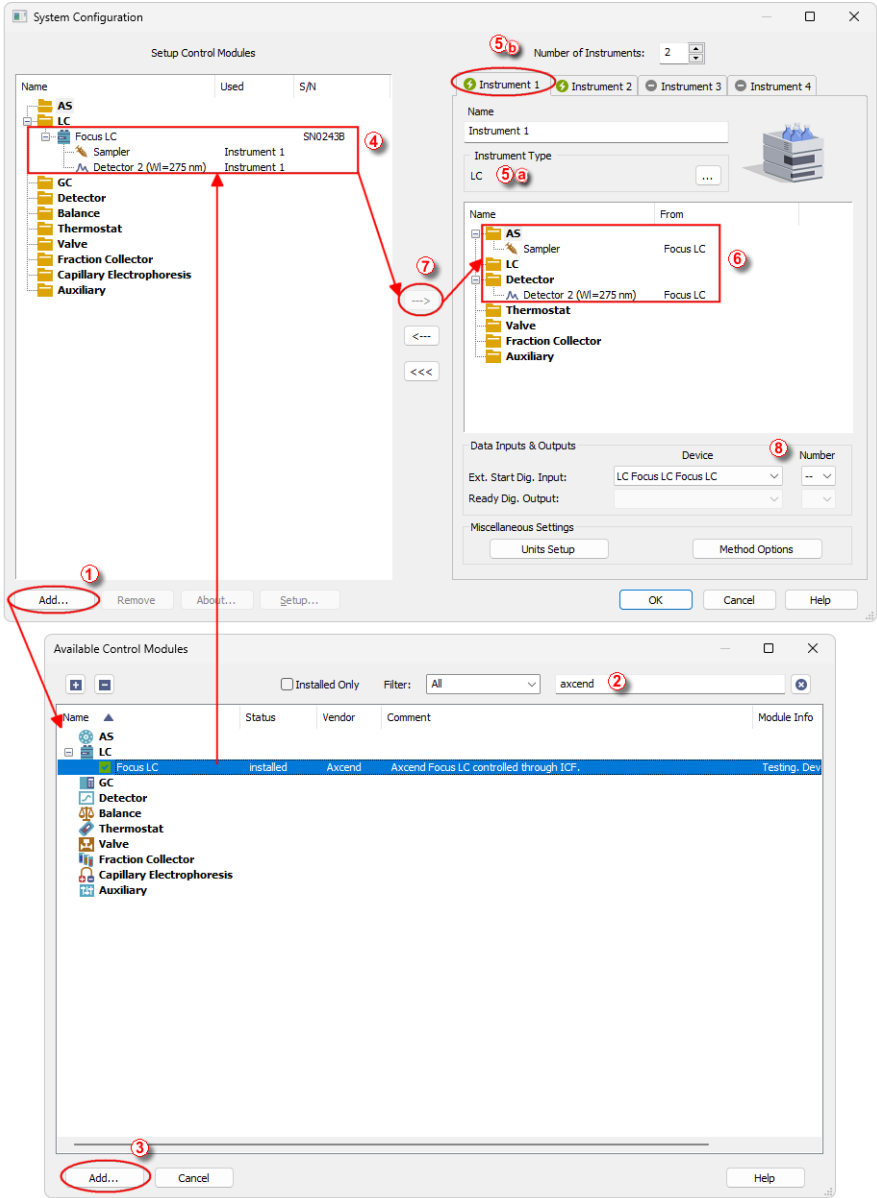

Fig. 4: System Configuration
- Press the **Add** button ① (See **Fig. 4** on pg. 5.) to invoke the **Available Control Modules** dialog.
- You can specify the searching filter ② to simplify the finding of the driver.
- Select the **Focus LC** item from the **LC** section and press the **Add** ③ button.